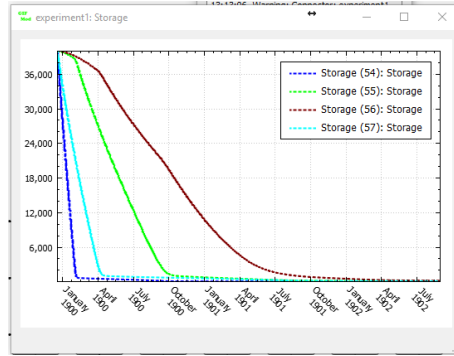

Figure 4: Storage variation in select blocks
- Right-click on a block of your choice and select **Plot Hydraulic Results**→**Plot Storage** from the drop-down menu that appears. You may copy and paste the results on one graph to another one for comparison. For example figure 4 shows the storage in blocks *Storage(54)* to *Storage(57)*. As it can be seen the pumping rate leads to a near depletion of water in the block where pumping takes place.